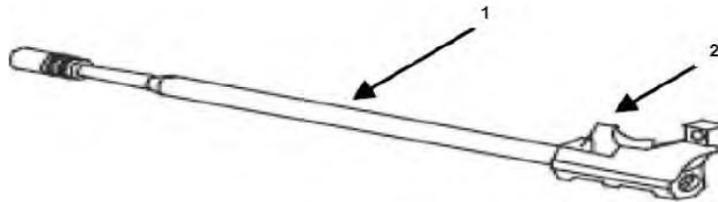

Figure 31. Gas Piston Assembly.
4. Check for looseness in operating rods that have the tower portion (Figure 31, Item 2) welded to the tube portion (Figure 31, Item 1), check for looseness between these parts. If loose between tower portion and tube portion, replace piston assembly (WP 0015).